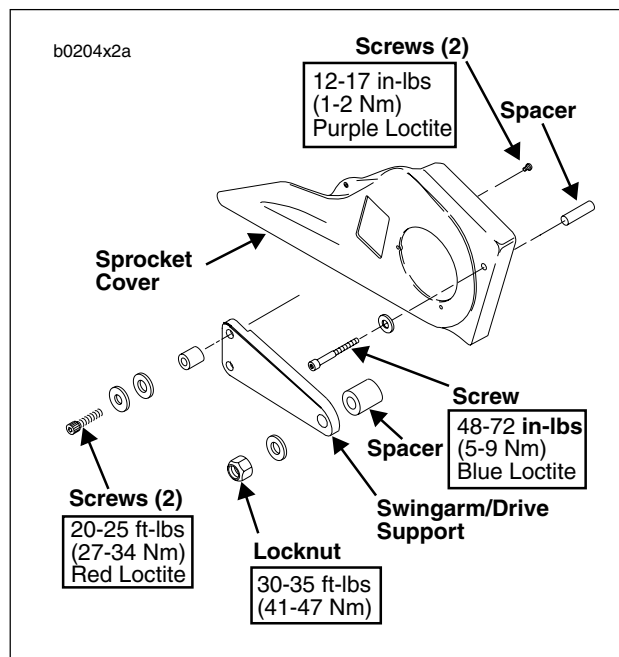

Figure 2-99. Sprocket Cover
1. See Figure 2-99. On S3 models, remove locknut and washer from swingarm/drive support.
3. See Figure 2-99. Remove two screws from swingarm/drive support.
1. See Figure 2-99. If removed, attach sprocket cover to swingarm/drive support.
5. See Figure 2-99. On S3 models, install locknut and washer. Tighten locknut to 30-35 ft-lbs (41-47 Nm).